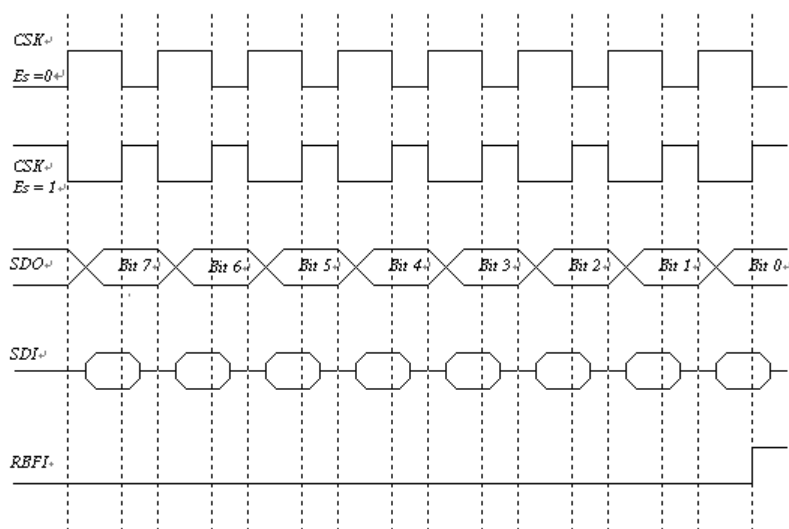
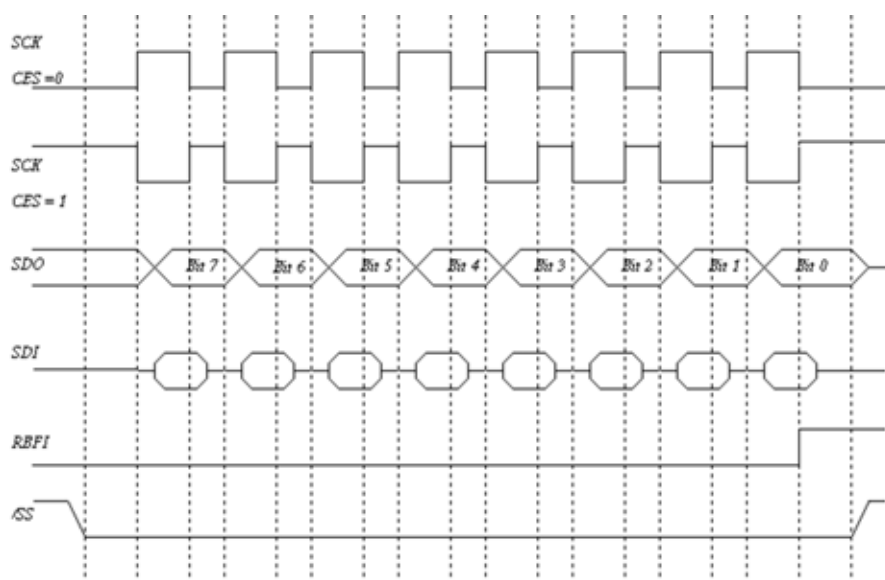

Fig. 13 SPI Mode with /SS Disable
Fig. 14 SPI Mode with /SS Enable
- Timing is shown in Fig.13 and Fig. 14.
- Timing is shown in Fig.13 and 14.
- Timing is show in Fig.13 and 14
The edge of SCK is selected by programming bit CES. The waveform shown in Fig.13 is applicable regardless of whether the EM78451 is under master or slave mode with /SS disabled. However, The waveform in Fig. 14 can only be implemented in slave mode with /SS enabled.